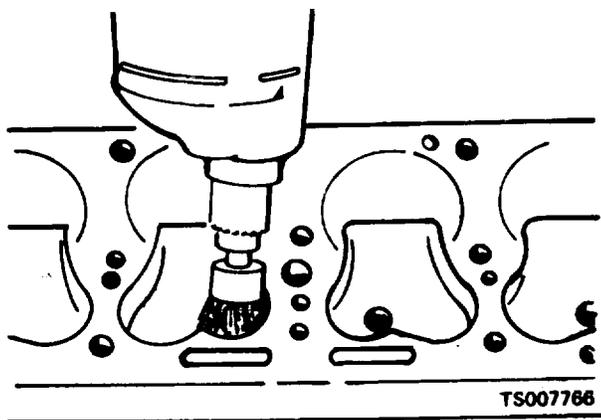

Figure 9-2. Cleaning Carbon From Combustion Chamber.
- a. Remove all carbon from combustion arm using a scraper and wire brush (fig. 9-2).